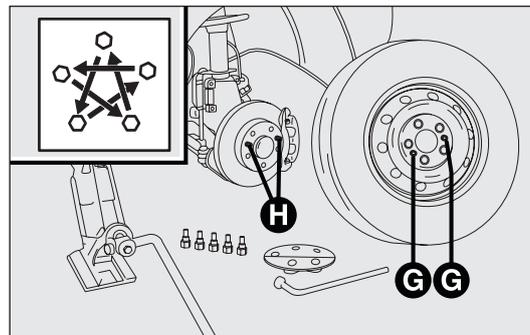

fig. 166
- fit the spare wheel, aligning holes G-fig. 166 with the pins H. When fitting the spare wheel, ensure that the wheel support surfaces are clean and free of impurities that could later cause the bolts to loosen;
- fully tighten the bolts, passing alternately from one bolt to the opposite one, following the order illustrated in fig. 166.